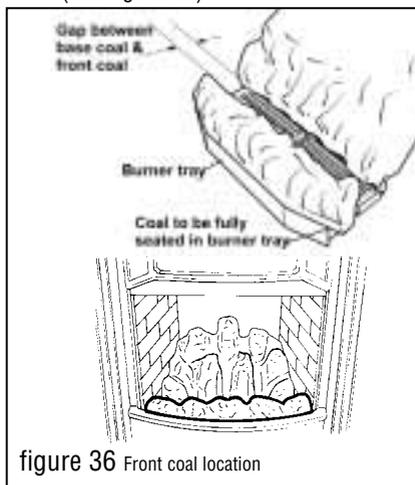

figure 36 Front coal location
11.2 Place the ceramic front coal in position in front of the base coal. Make sure that the side legs of the front coal are fully seated into the burner tray. There will be a gap between the rear of the front coal and the front of the base coal (See figure 36).